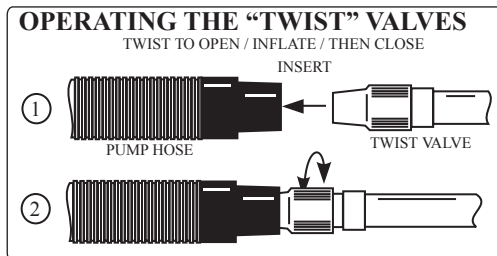

Figure 2. Inflate/Deflate Twist Valve
3. Inflate chamber 3 "floor" (using appropriate fitting). Twist valve open to inflate and twist closed when complete (*See Figure 2 on previous page*). Fill until firm. (1.0 psi **ONLY**)